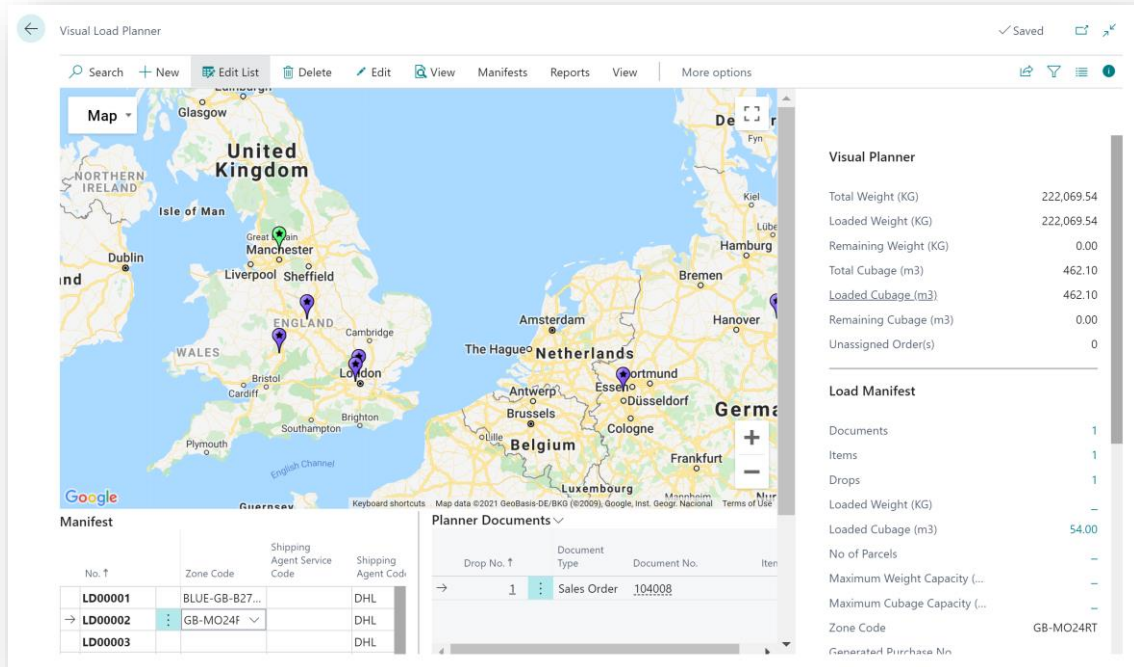

Figure 8-16
**Visual Load Planner** is accessed from the **Queued Documents** list (Figure 8-16).